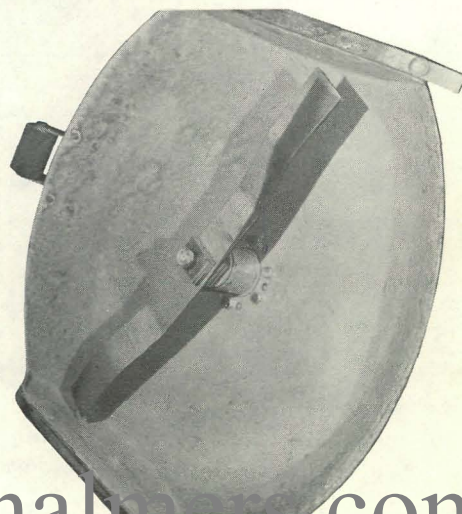

Fig. 5
Install three cutting height spacers (item 8), blade (item 12), the remaining spacers and nut (item 13). Torque nut to 100 ft. lbs. (135.6 Nm). See Fig. 5